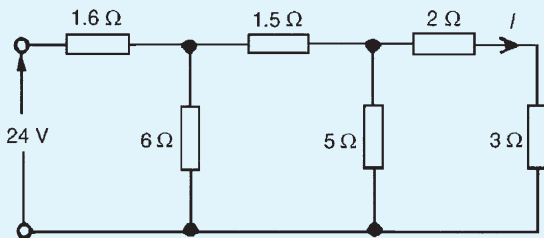

Figure 5.34
10. Find the current  $I$  in Fig. 5.34.